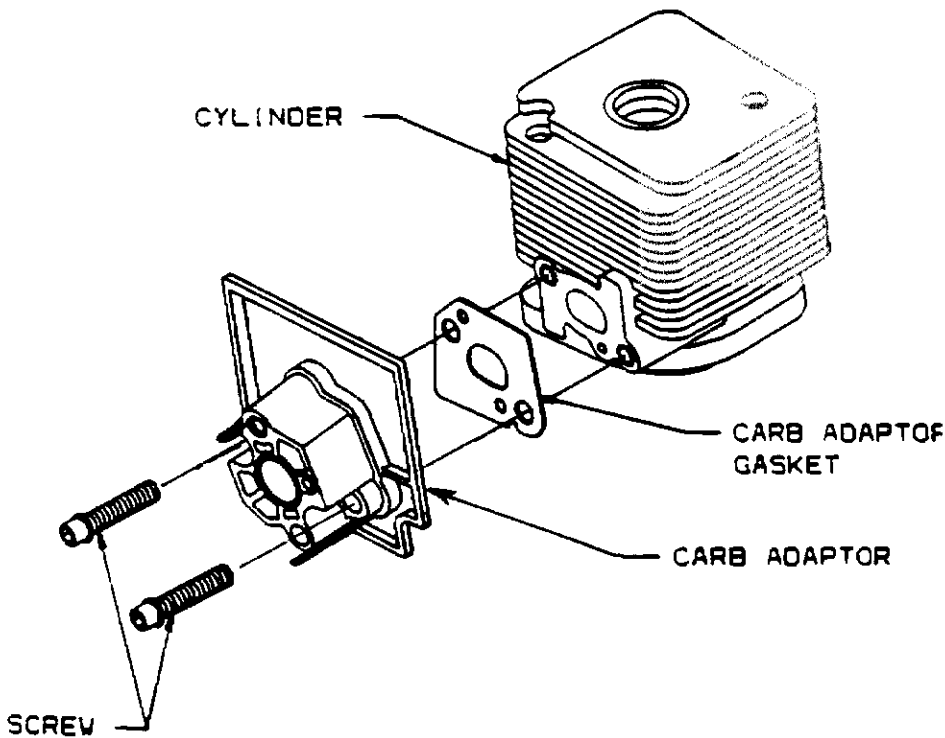
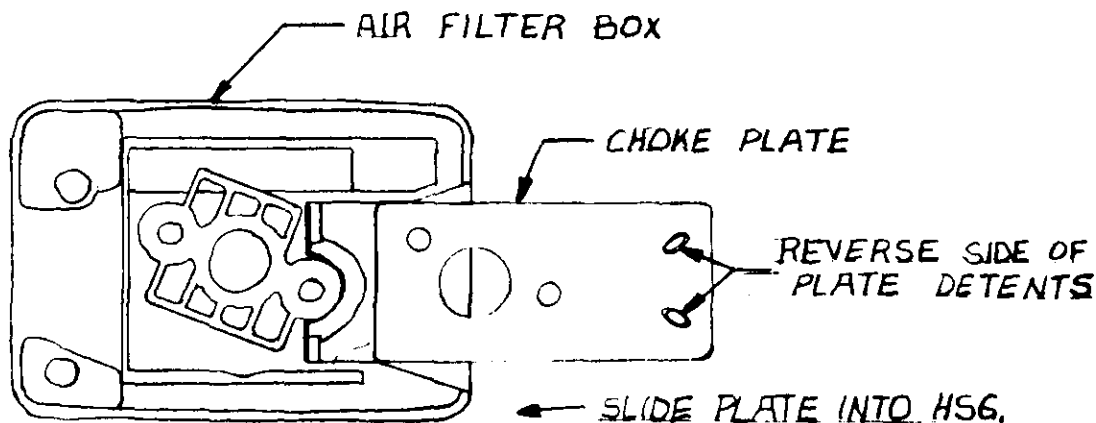

FIGURE 4
FIGURE 5
- A. ASSEMBLE CARBURETOR ADAPTER GASKET TO CARB ADAPTER (FIGURE 4) (NOTE GASKET RETENTION POSTS).
- B. ASSEMBLE CARB ADAPTER TO CYLINDER WITH TWO (2) SCREWS. TORQUE TO SPECIFICATION.
- D. PLACE CHOKE SHUTTER INTO FILTER BOX MAKING SURE THAT DETENT ON THE SHUTTER WILL ENGAGE THE THREE DETENTS IN THE CHOKE PLATE (FIG. 5).